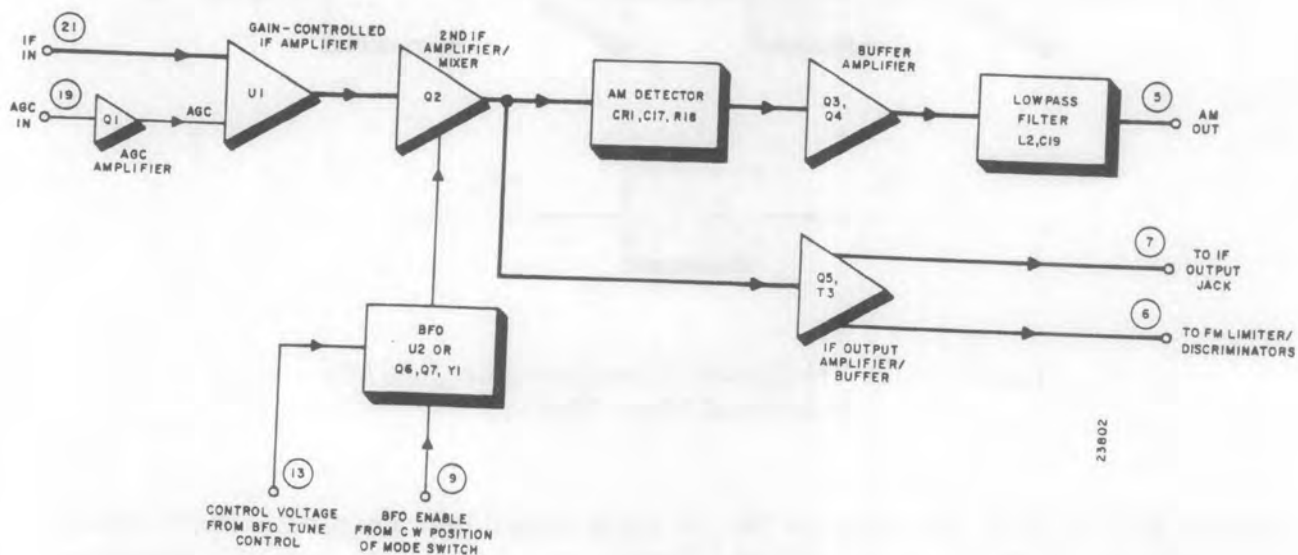

Figure 3-6. Type 72343 IF Output Amplifier (A6, A5),
3.9.5 TYPE 72343 IF OUTPUT AMPLIFIER SUBASSEMBLY (A6A5). - Figure 3-6 is a functional block diagram for this subassembly. The subassembly contains an agc-controlled i-f amplifier, a bfo, an am detector with output amplifier, and an i-f output buffer amplifier. When the bfo is energized in the cw operating mode, the 21.4 MHz bfo signal is added to the i-f signal in the second stage of the i-f amplifier. The beat-frequency component is produced by the am detector for use as the audio output signal.